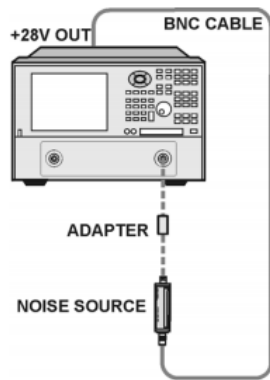

Figure 4-2 ENR measurement test setup
- 4 Connect the noise source (DUT) to Port 2 of the network analyzer for ENR measurement. The measurement setup is as shown in Figure 4-2.